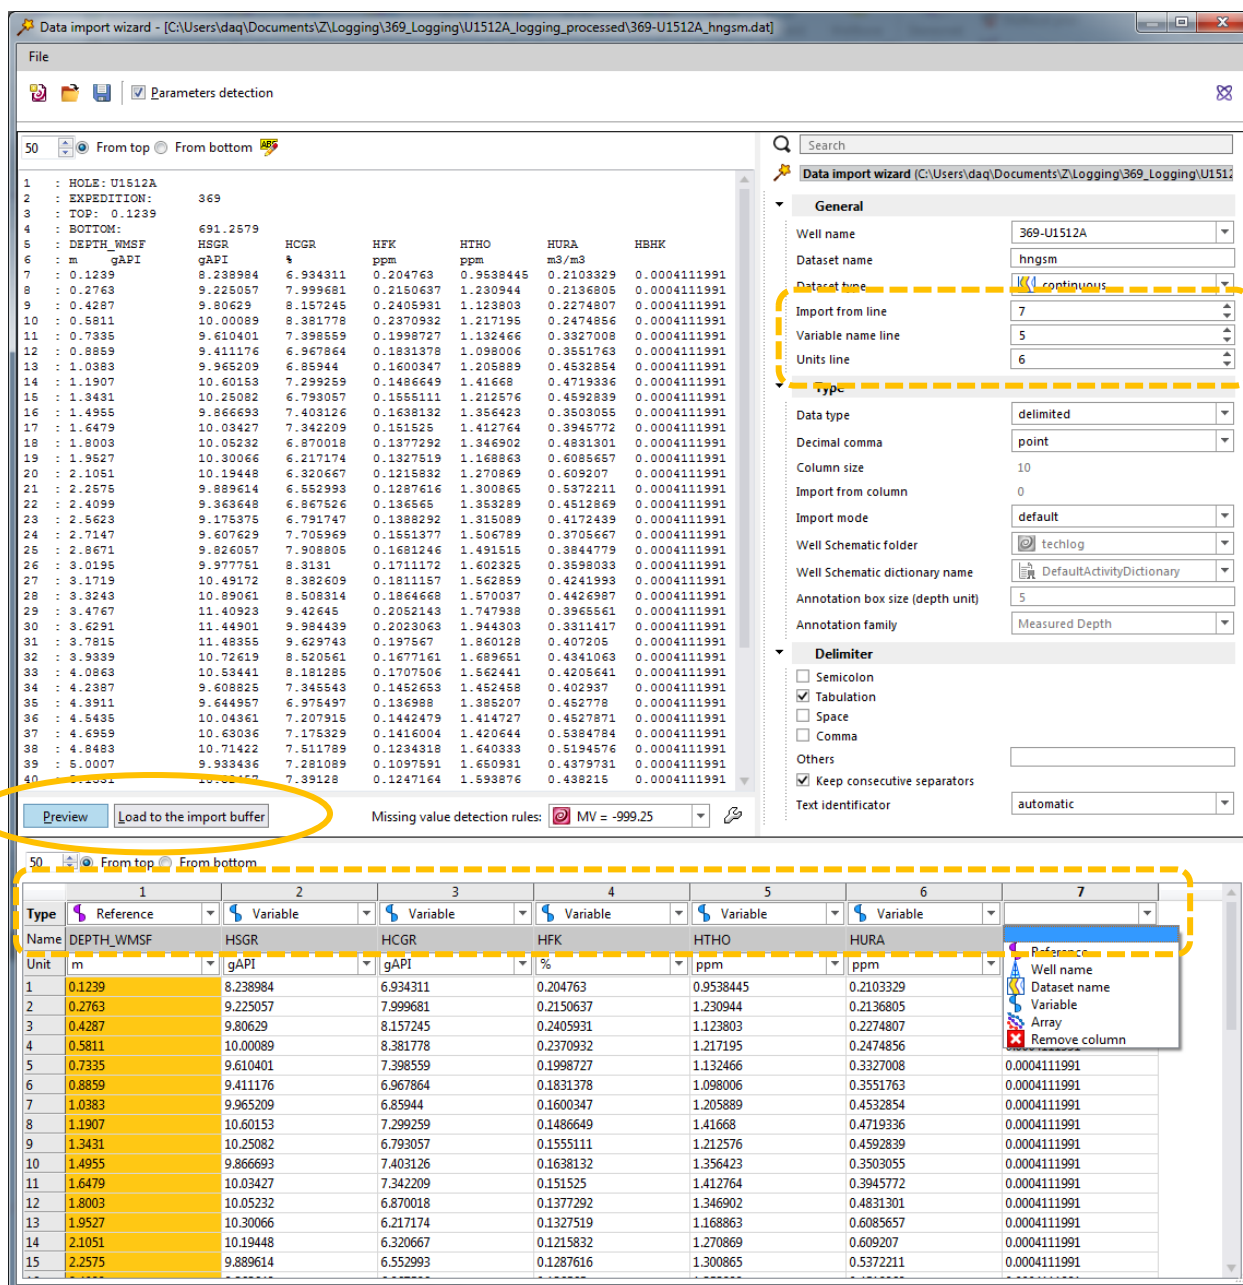

Figure 7: Data import wizard for DAT, TXT and CSV files.
1. Using Windows File Explorer, select a DAT, TXT or CSV file and drag into the Import Buffer Panel (Fig. 7)
2. In the Data import wizard window that pops out, define the first line to be imported, the variable name and units (Fig. 7). Use the ASCII file display panel as a reference.